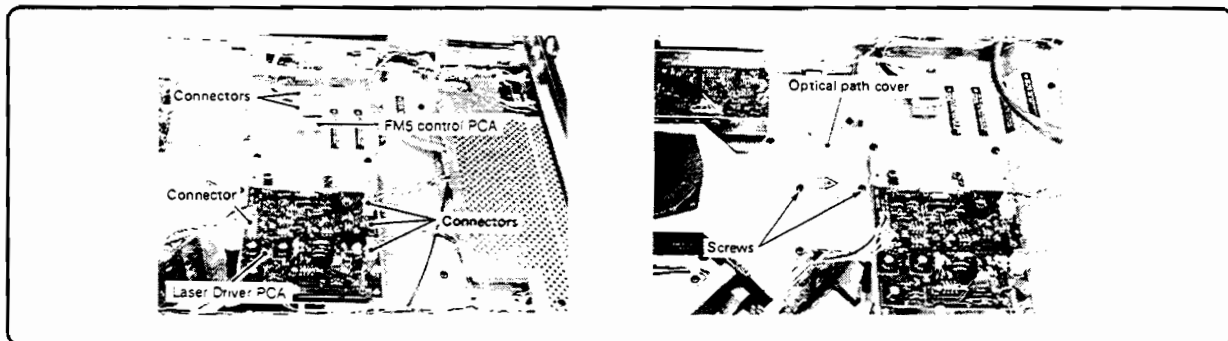

Figure 6-94. Engine-FM5 and Optical Path Cover
3. Unplug all connectors from Engine-FM5 Driver PCA (small PCA toward the rear of printer) and the Laser Driver PCA (Figure 6-94). (Neither PCA needs to be removed.)
4. Remove the Optical Path Cover (two screws - Figure 6-94).